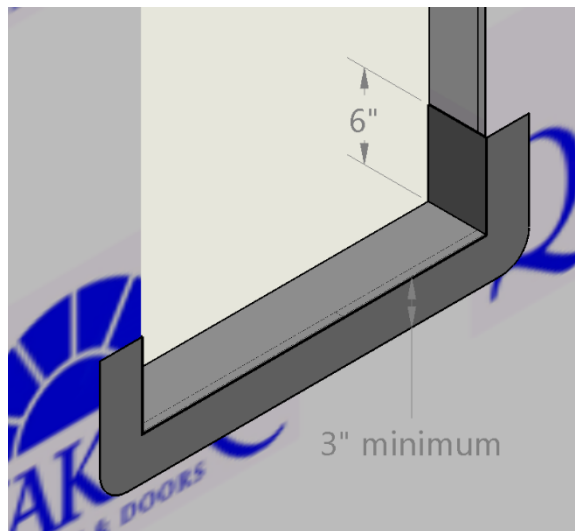

Fig. 5
- B. Measure the width of rough opening and cut a length of flashing that is 12" wider than the rough opening. This will allow you to run the flashing 6" up each side. (Fig. 5)
- C. Apply sill flashing to exterior side first allowing for a minimum of 3" of flashing to be below the sill, and a minimum of 6" up each side. (Fig. 5)